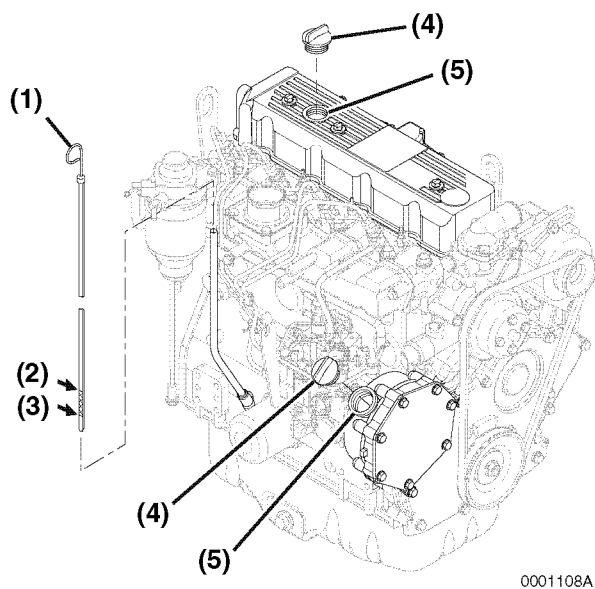

Figure 4-6
2. Remove dipstick (**Figure 4-6, (1)**) and wipe with clean cloth.
4. Remove dipstick. The oil level should be between upper (**Figure 4-6, (2)**) and lower (**Figure 4-6, (3)**) lines on the dipstick.
2. Remove oil cap (**Figure 4-6, (4)**).
3. Add indicated amount of engine oil at the top or side engine oil filler port (**Figure 4-6, (5)**).
6. Replace oil cap (**Figure 4-6, (4)**) and hand tighten. Over-tightening may damage the cap.